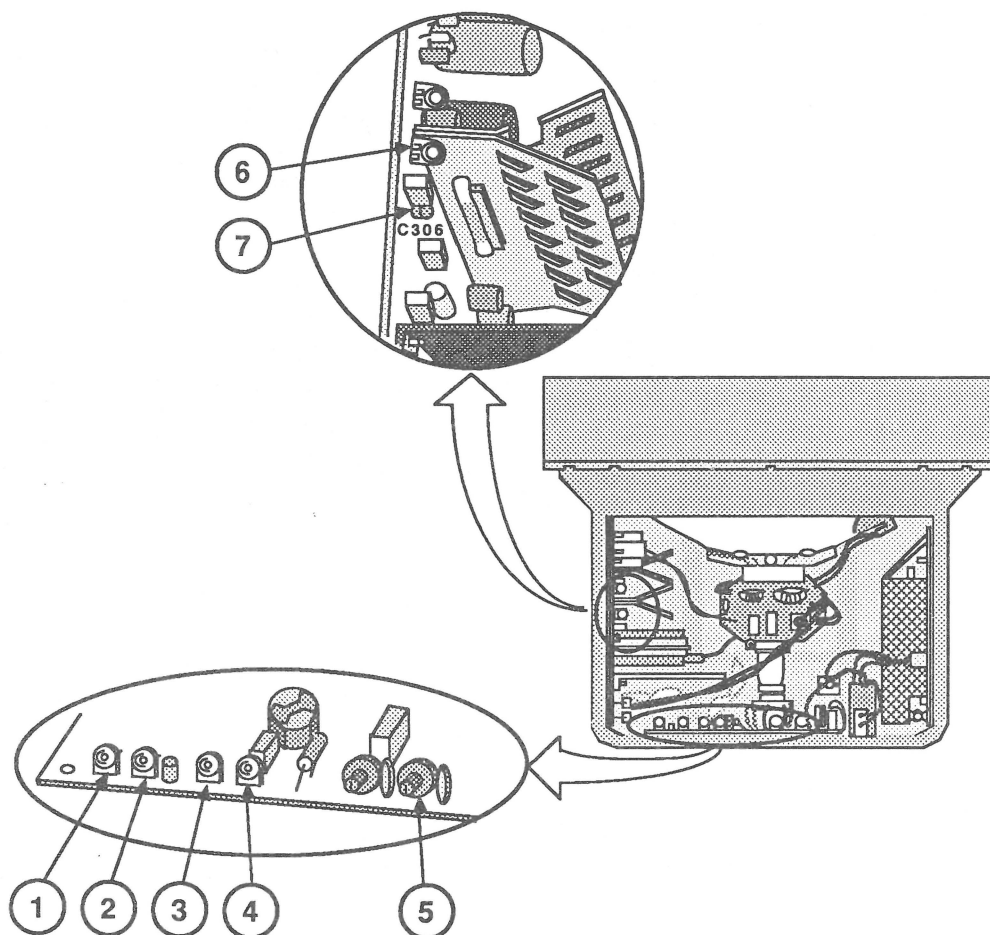

FIGURE 3
- CUTOFF (Figure 3, #1)
- BRIGHTNESS RANGE (Figure 3, #2)
- VERTICAL FOCUS (Figure 3, #3)
- HORIZONTAL FOCUS (Figure 3, #4)
- STATIC FOCUS (Figure 3, #5)
- VERTICAL LINEARITY (Figure 3, #6)
- VERTICAL LINEARITY (TOP) (Figure 3, #7)